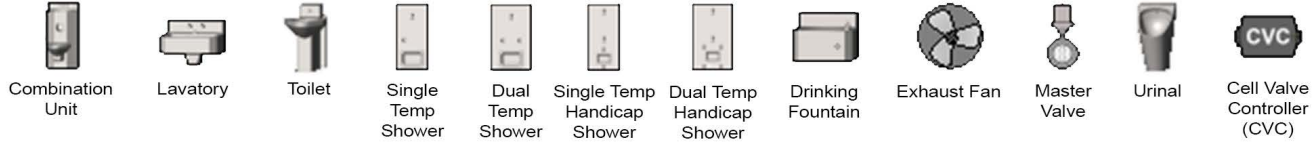

Figure 11 - Fixture Types
*Figure 11* illustrates the different fixture types that may be displayed in the program according to the layout of the actual plumbing fixtures in your facility. Your program will be pre-configured to contain a fixture icon for each actual plumbing fixture connected to the Operator Station via the WMS II network.